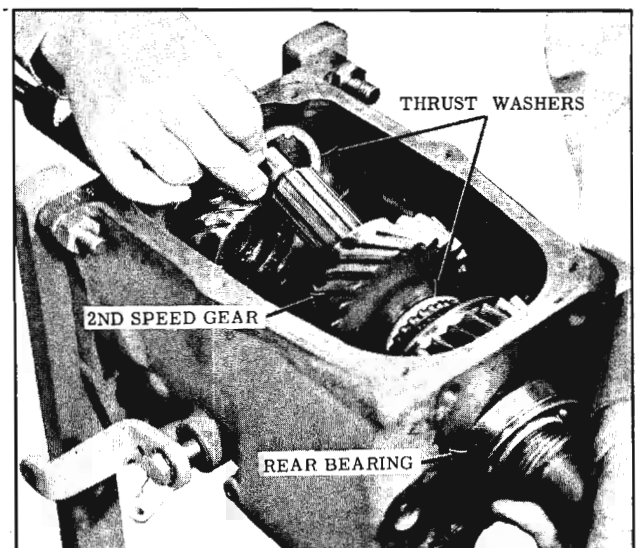

Fig. 11-11 Removing Second Speed Gear
8. Remove the keyed thrust washer, the second speed gear, and the rear thrust washer from the main shaft. (Fig. 11-11)